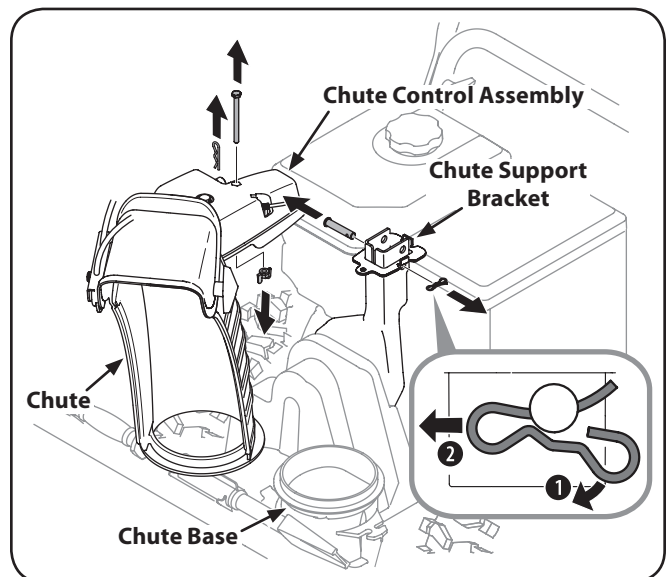

Fig. 3-3
1. Remove wing nut and hex screw from chute control assembly and clevis pin and cotter pin from chute support bracket. See Fig. 3-3.
8. Finish securing chute rotation assembly to chute support bracket with wing nut, clevis pin and cotter pin removed earlier. See Fig. 3-3.